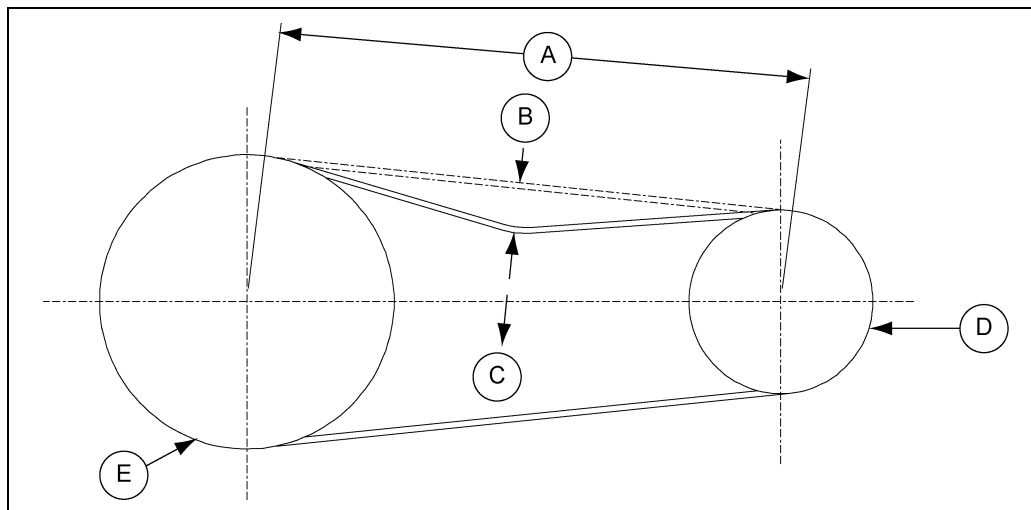

Figure 6AN
Adjustment of V-belt tension is achieved by tightening the hex nuts located on the four (4) jack screws of the motor base. Adjust motor base equally at all four (4) jack screws to maintain shaft alignment. Belts are designed to fit loosely upon installation. When the V-belt tension is correct, tighten the top nut on the jack screws to lock the motor base in position. Proper tension (B) is 1/64 inch of deflection per one inch (1") of sheave centers on one side of belt, centered between sheaves. (See Figure 6AN.)